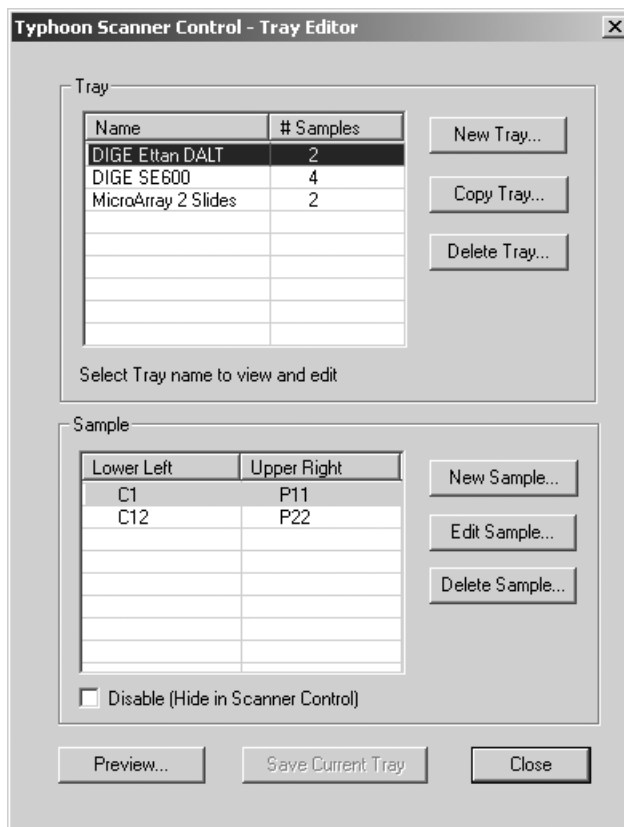

Figure 3-3. The Tray Editor window.
If you are scanning multiple samples (for example, DIGE gels), you can use the Tray Editor window (figure 3-3) to create a separate scan area for each sample. You provide a name for each scan area. When you select the scan parameters, you choose the tray definition from the Tray list. When you scan the samples, Scanner Control creates a separate image for each scan area defined in the selected tray definition.
1. Choose **Tray Editor** from the Tray menu. The Tray Editor window appears and displays the current list of defined trays (figure 3-3).
You can delete a tray definition that you no longer need from the list in the Tray Editor window (figure 3-3).